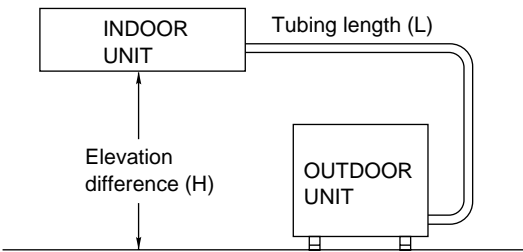

Fig. 2
- install the unit within the maximum elevation difference (H) above or below the outdoor unit and within a total tubing length (L) from the outdoor unit as detailed Table 1 and Fig. 2.